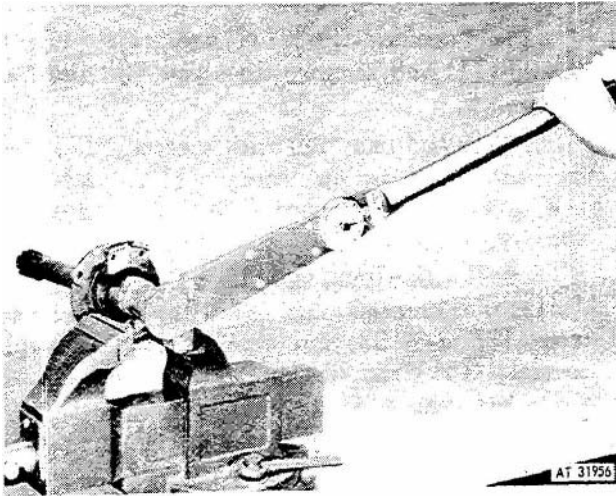

Figure 3-160. Securing yoke to thru-shaft.
(23) Position yoke (4, fig 3-141) and retainer (8) on shaft (11) and secure with nut (2) and washer (3). Tighten nut to 175-250 leas-ft. torque and install cotter pin (1) as shown in figure 3-160.